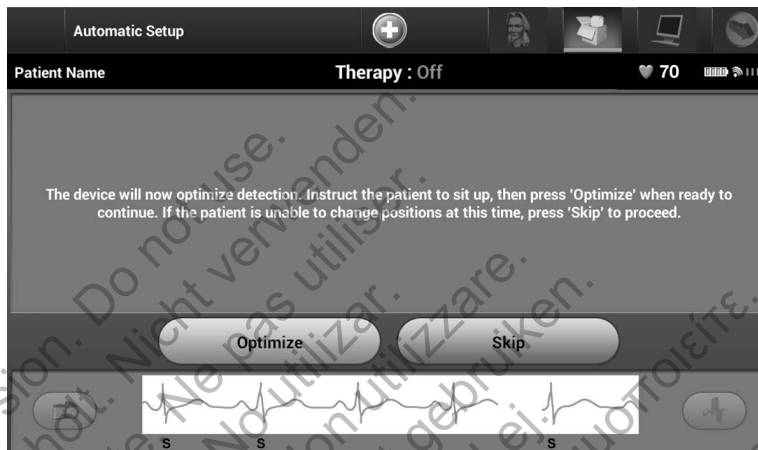

Figure 27: Automatic Setup screen
6. The Automatic Setup optimization process will be initiated. The programmer will display a message requesting that the patient sit up. If Automatic Setup is being performed during implant, or if the patient is unable to sit up for some other reason, this step can be omitted by selecting the Skip button (Figure 27). If desired, Automatic Setup can be repeated during a follow-up session to include the optimization step.